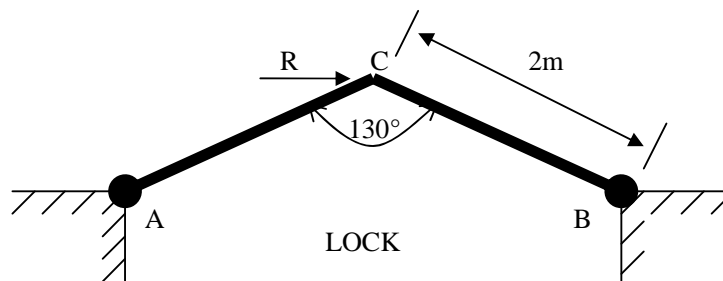

Fig Q6
- (a) the pump suction pressure; (2)
- (b) the head lost due to the pipeline friction between the pump and the cooler; (4)
- (c) the pump discharge pressure when the maximum pressure drop across the cooler is reached; (6)
- (d) the maximum power delivered by the pump. (4)
6. The lock gate shown in Fig Q6 has two identical rectangular gates supported by hinges at A and B and meeting at C. The fresh water in the river is at a level of 6m on the outside of the gates and 3m within the lock.